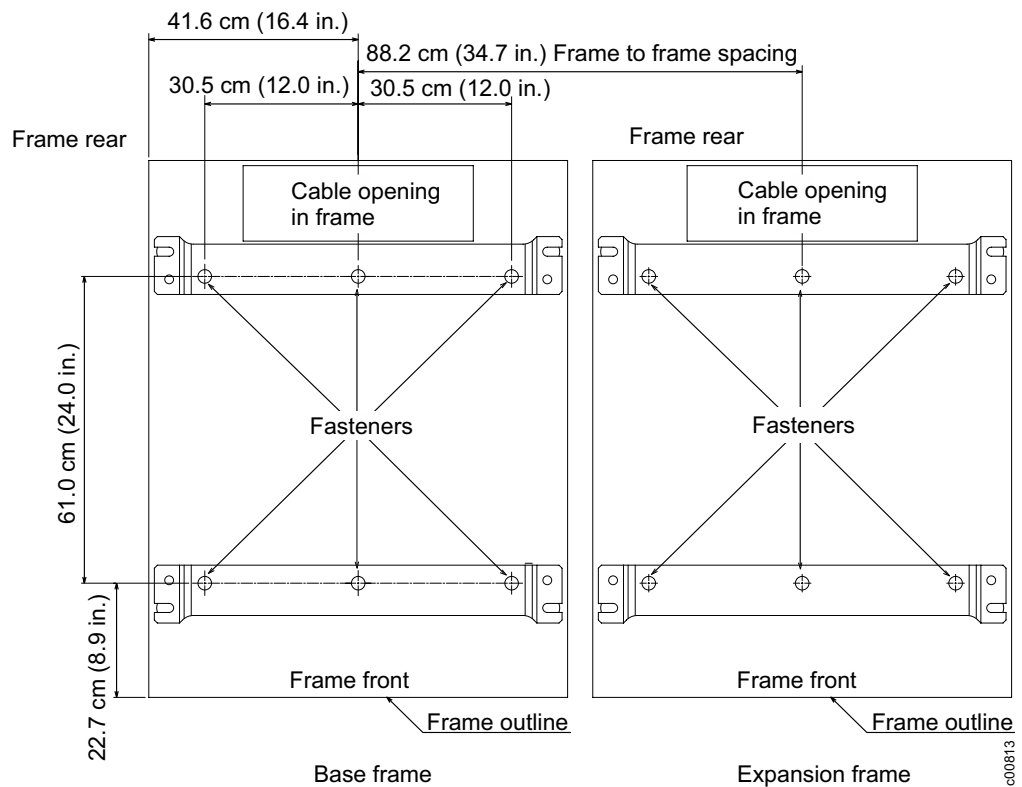

Figure 27. Locations for fastener installation (nonraised floor).
- Use Figure 27 to determine the placement of the fasteners.